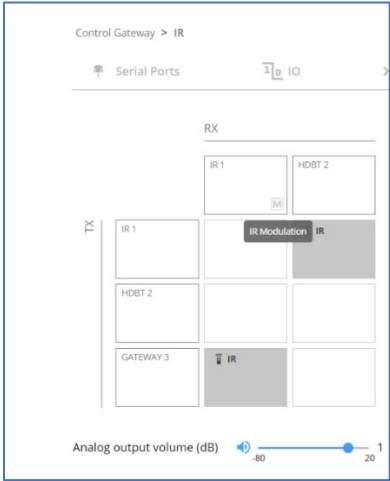

Figure 47: IR Modulation Method Setting
- 4. If needed, select modulation method by pressing **M** on Rx IR 1 cell (see \(Figure 47\)).